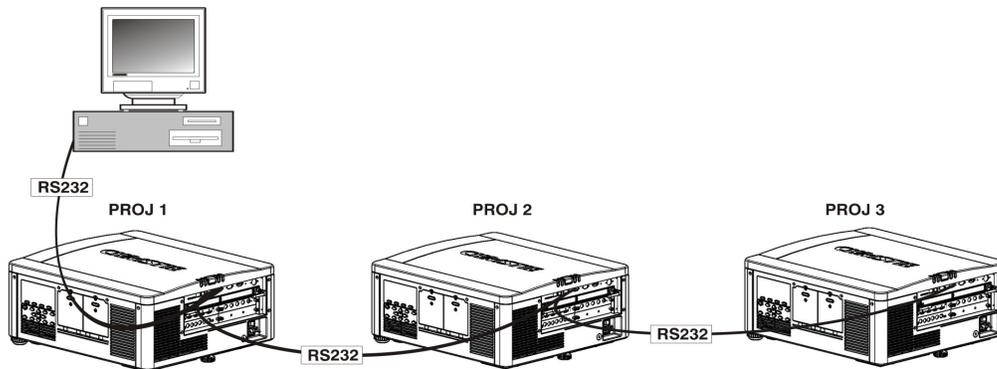

FIGURE 2-19 RS-232 NETWORK
3. Continue this pattern of connection with all projectors in the network. **NOTE:** The last projector in the network will only have a connection to the RS-232 IN connector, see *Figure 2-19 RS-232 Network*.